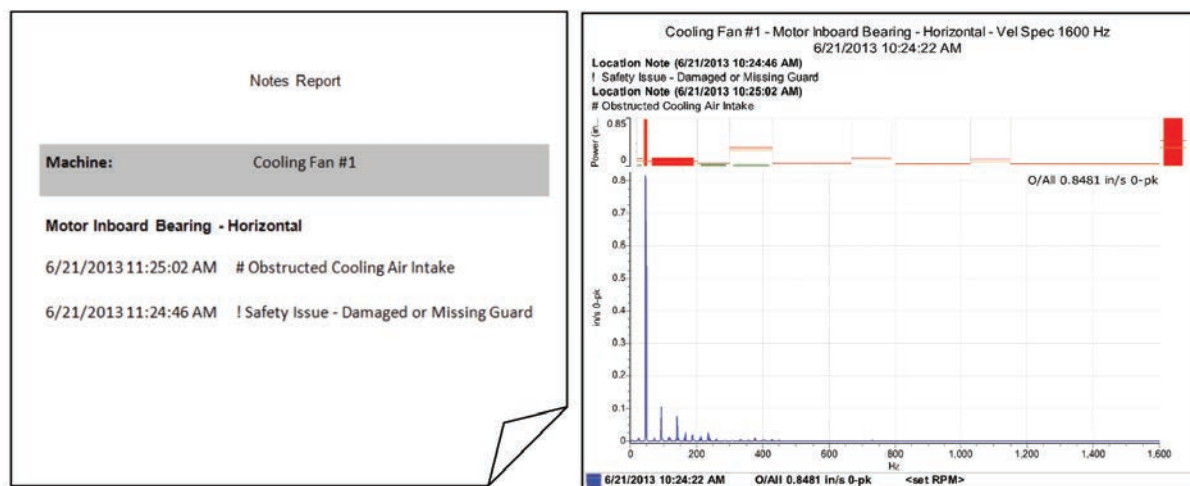

FIGURE 5: Sample Notes Report (left) and Notes Displayed on a Plot (right)
**FIGURE 5:** Average Shaft Centerline Plots for Bearings 1-3 during a Hot Shutdown on Sept 23, 2012. Note: Individual scales are identical to average shaft centerline plots from Figure 3. (Data from #3 bearing was not available during the Sept 23 data set. It was instead taken from the earlier data taken Feb 16, 2012.)
Data was taken on February 16, 2012 and later on September 22, 2012 by PSE personnel using an ADRE 408 DSP data collector and analyzed using the ADRE Sxp software. Note the maximum observed displacement of 1.8 mil pp (45.7 microns) during a cold startup (Figure 4), compared with 8.9 mil pp (226 microns) before the realignment. The average shaft centerline plots of Figure 5 show some improvement in the shaft position between the three bearings. Although the #2 bearing was raised, it still appears to be more lightly loaded than the other two gas turbine bearings. However, the #3 bearing does reflect the decreased loading from the realignment.
The Ascent software provides two methods for communicating the information logged in the SCOUT instrument that are shown in Figure 5. A Notes Report, with the date range set to "Last 1 Day" will show all of the observational notes that were assigned or recorded into the instrument immediately after the data was received into the Ascent database. This is where using special characters can easily draw the readers' attention to specific types of observations.